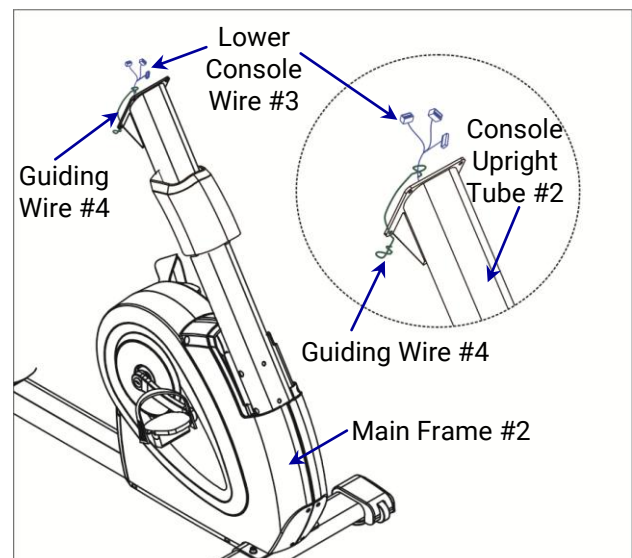

Fig 2.5-4B
- 3) While lowering the **Console Upright Tube #2** to the **Main Frame #5**, pull the **Guiding Wire #4** taught to remove any slack in the console wires. (Fig2.5-4B)